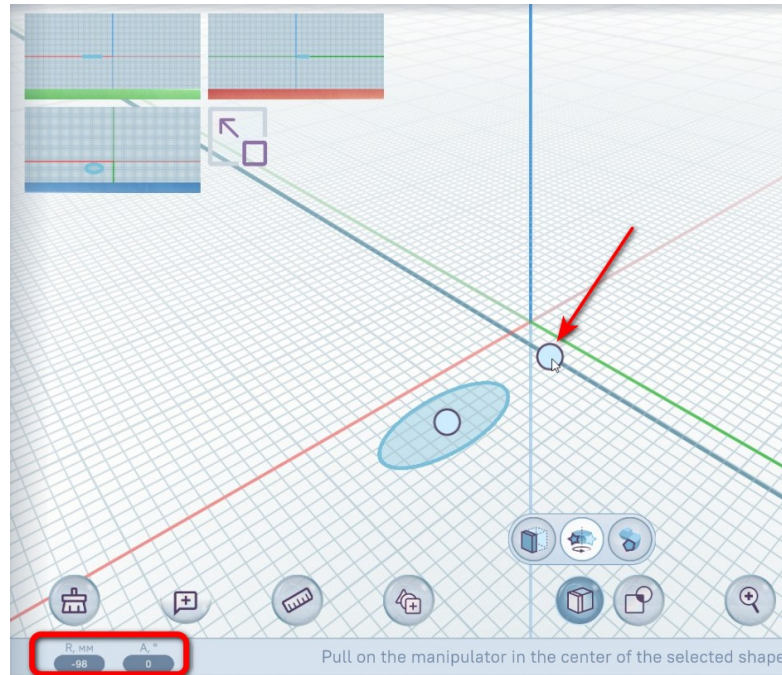

Figure 96 –XY axis offset
- pull the manipulator circle, moving the axis in the sketch plane (in Figure 96 — in the XY plane);
- change the axis position using the axis offset value input field on the properties panel (valid values are from 0 to ± 5000). To do this, click on the input field (Figure 96), enter a value and to confirm the entry, press the Enter key or click outside the input field.